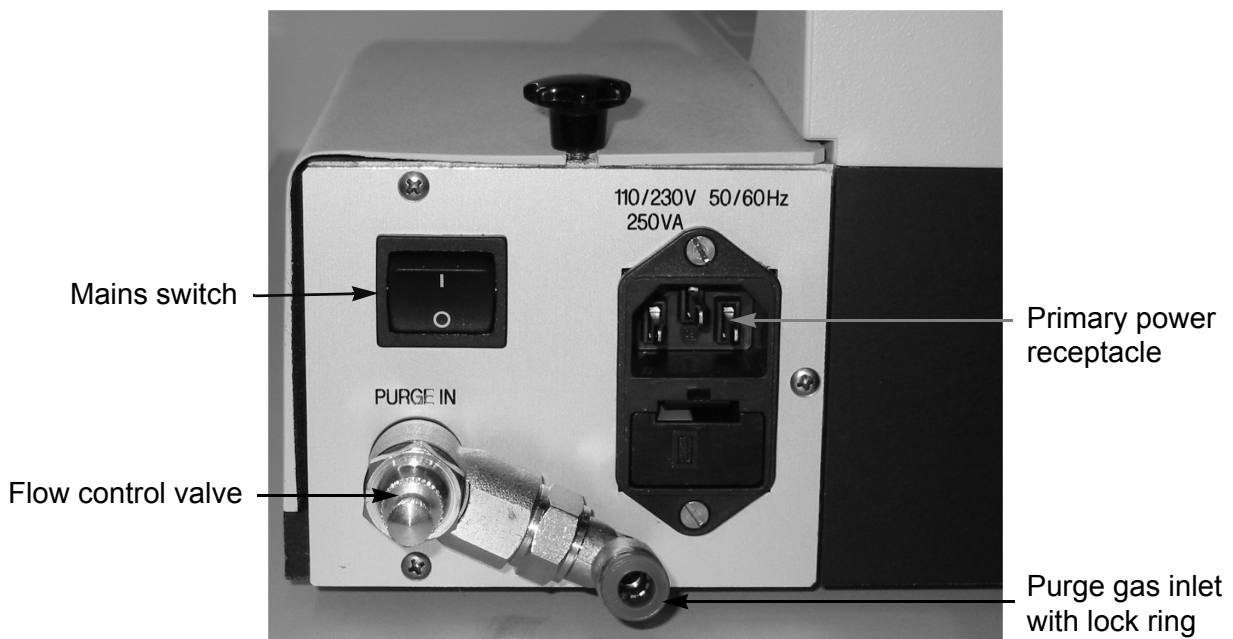

Figure 1: Microscope rear side (Detail view)
- Before connecting the power cord, make sure that the microscope is switched off, i.e. the mains power switch at the microscope rear side (figure 1) is in the “O” position.
- Connect the supplied power cord to the primary power receptacle at the microscope rear side (figure 1) as well as to the mains socket outlet.
- Insert one end of the hose into the purge gas inlet (figure 1) at the microscope rear side.